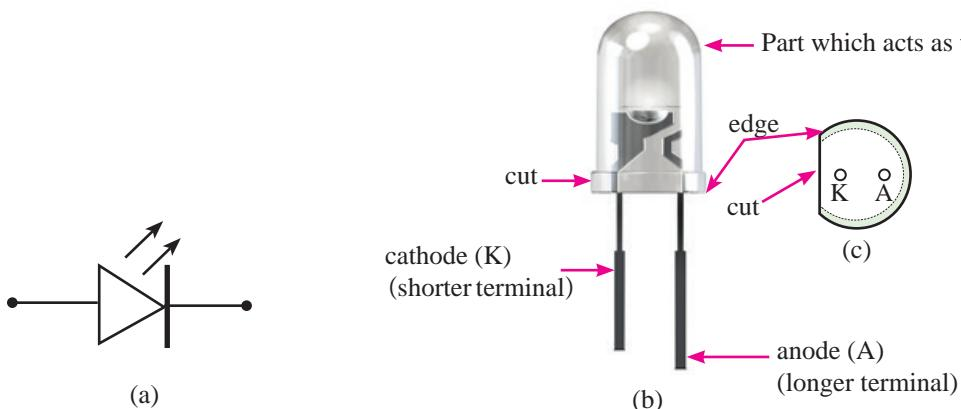

Figure 11.22 – (a) The symbol (b) Outward appearance of a light emitting diode
Various types of diodes are available in the market and Figure 11.22 shows the outward appearance, the symbol and how to identify the terminals of one of the most popular types, the 5 mm LED. The longer terminal of a diode is its anode. Similarly, if the base of the LED is pointed towards us, the terminal near the cut is its cathode. There are also LED's that emit red, yellow, green, blue colors as well as infrared (IR) and ultraviolet (UV) rays in the market.